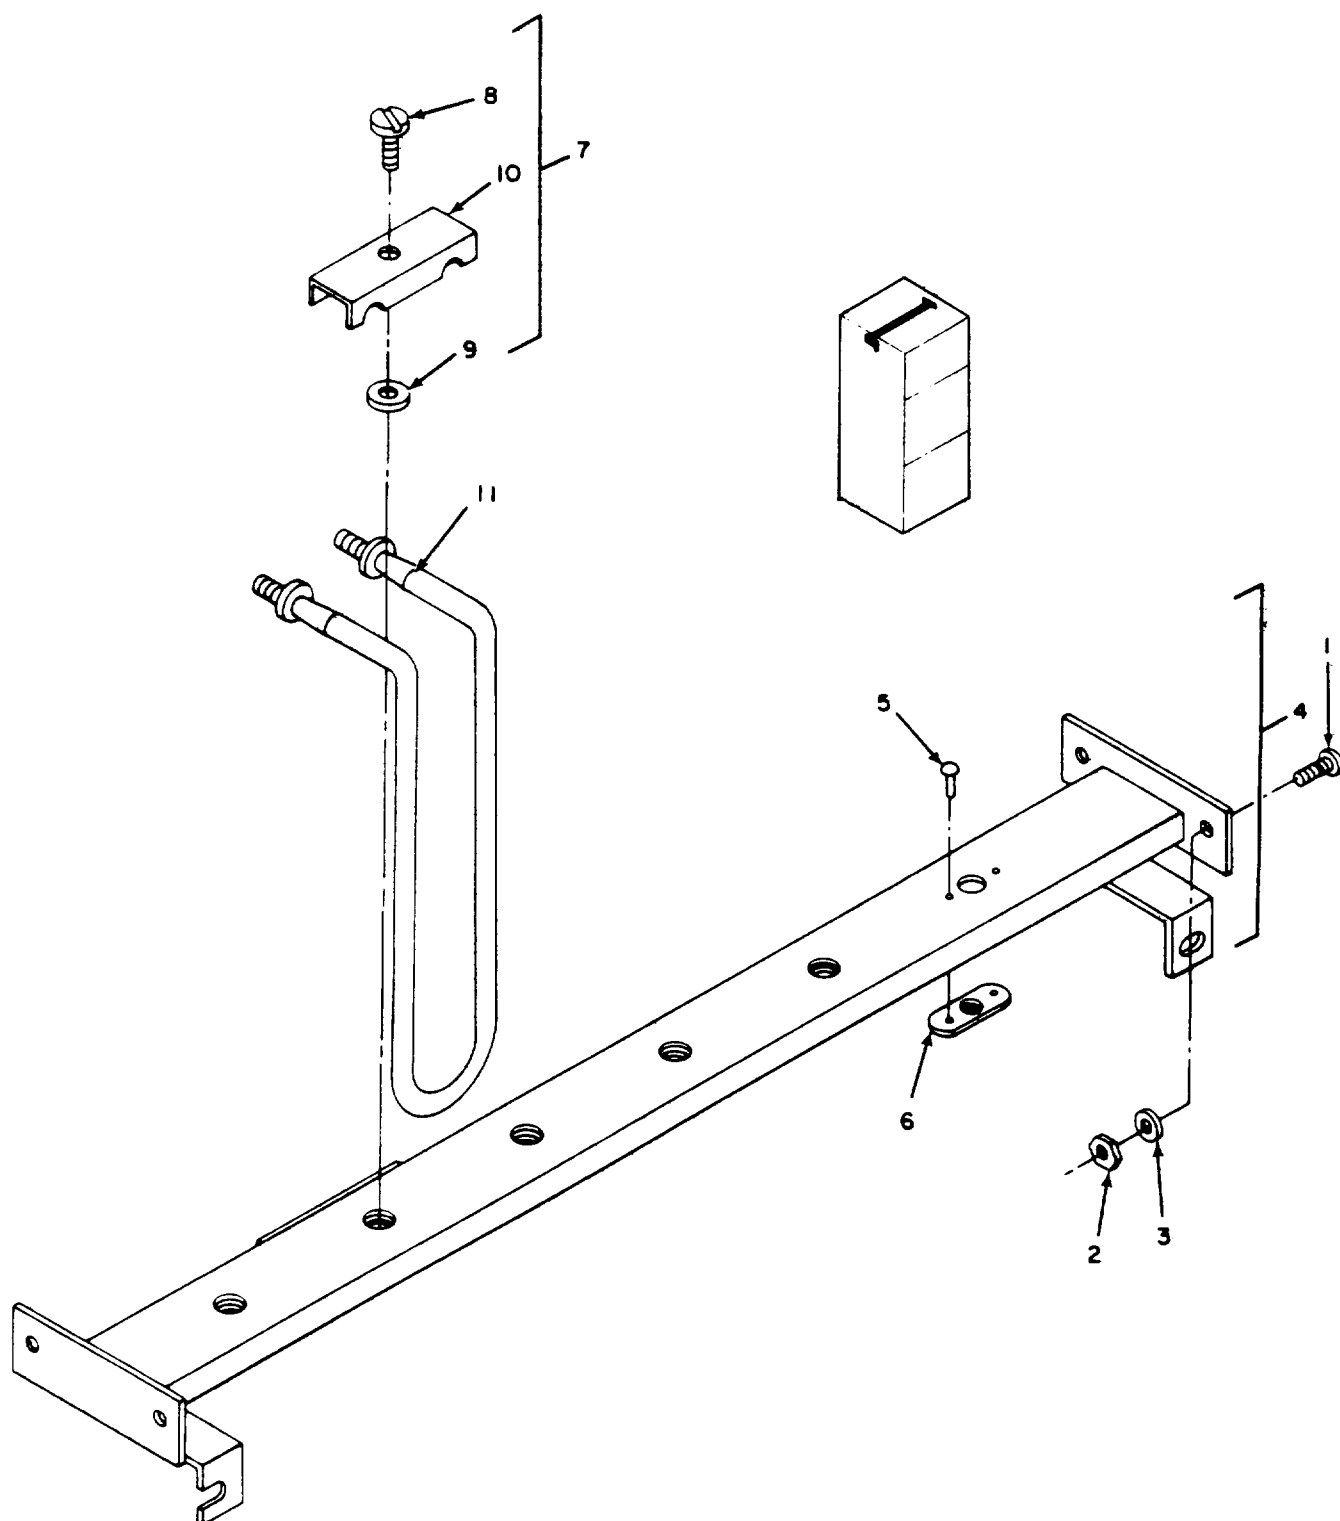

Figure 4-38. Heater Elements and Support.
- a. **REMOVAL. See Figure 4-38.**